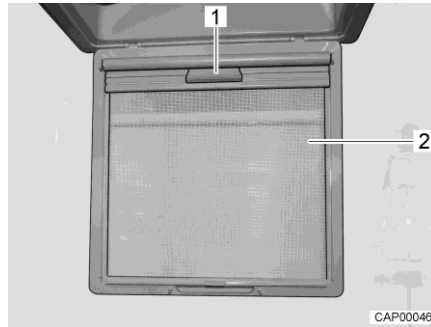

Fig. 62 Blind
- Fold insect screen (Fig. 62,2) downwards.
- Pull the blind by the handle (Fig. 62,1) downwards until it clicks into place on the opposite side.
- Release blind at the handle (Fig. 62,1) and return it slowly to its initial position.
- Swing insect screen (Fig. 62,2) upwards until it latches in place.